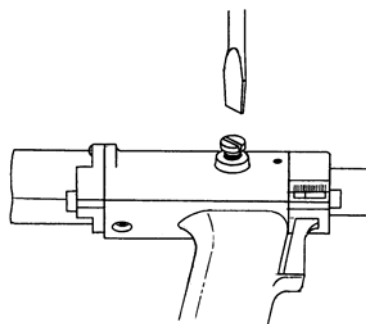

Figure 7-22
- j) Replace the Air Chamber and the four (4) truss machine screws on the Air Chamber.
- k) Turn the tool over so that the fill screw is uppermost. Use a straight screwdriver to unscrew the fill screw to let any excess oil and air (bubbles) escape. Once the hydraulic oil stops coming out, tighten the fill screw (Figure 7-22).